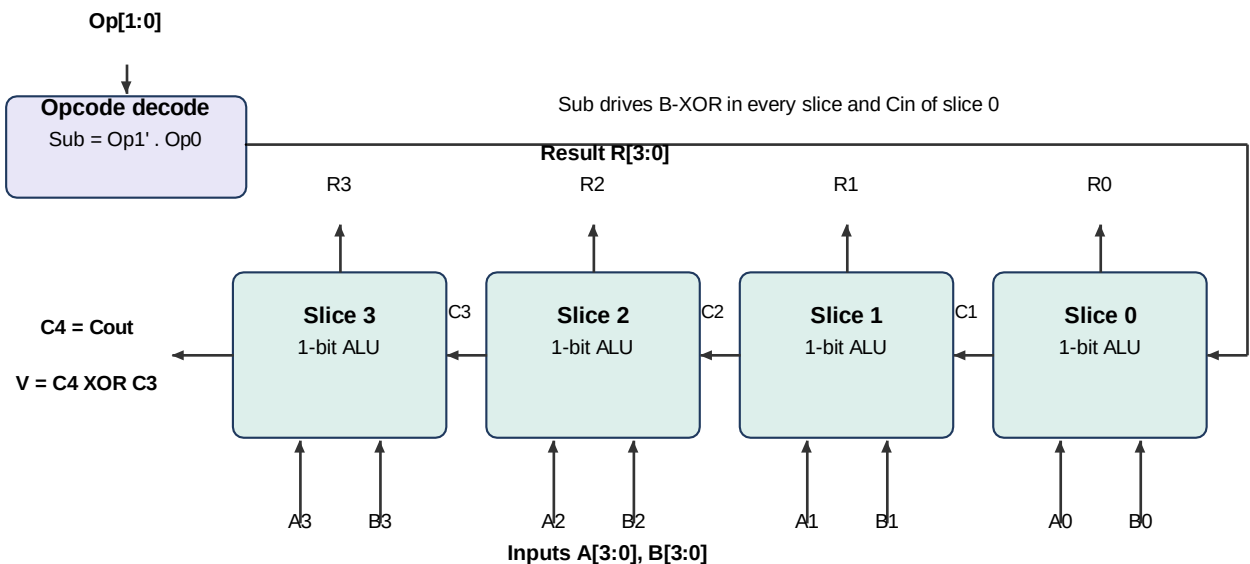
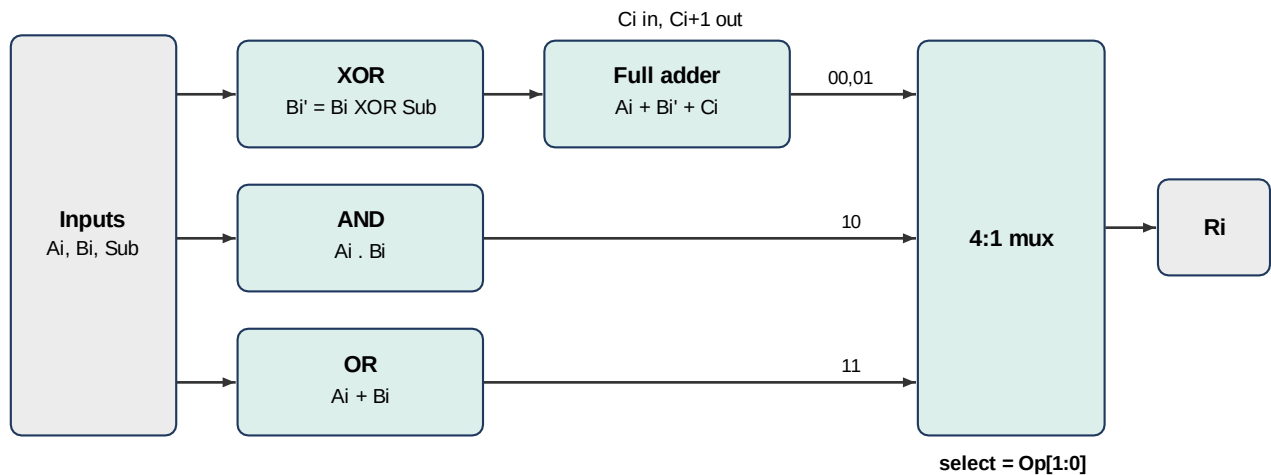

Figure 1. Top-level block diagram of the 4-bit ALU
Figure 2. Internal structure of one 1-bit ALU slice
5.3 Architecture. Figure 1 shows the top level: an opcode decoder generates Sub, and four identical 1-bit slices are connected by a ripple-carry chain. Figure 2 shows one slice: an XOR gate conditionally inverts B, a full adder produces the sum, AND and OR gates run in parallel, and a 4:1 multiplexer driven by Op[1:0] selects the result bit.